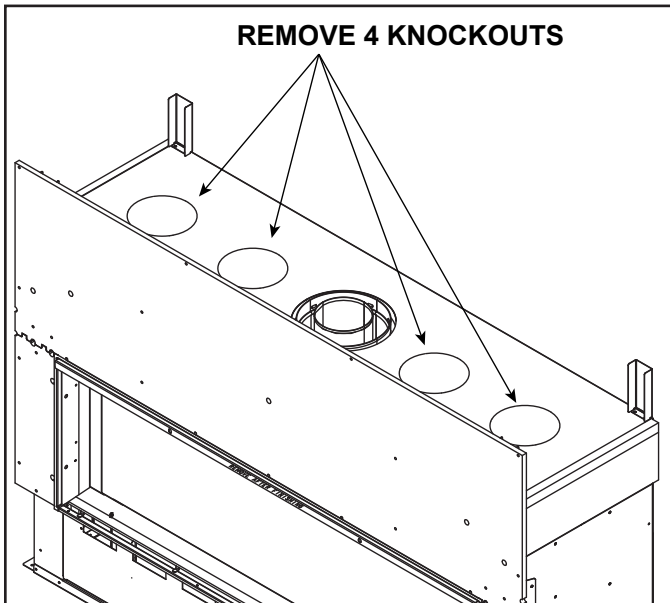

Figure 8 Remove Knockouts
1. Remove the four knockouts on the top of the appliance by dislodging them with a hammer and then using a screwdriver to remove from the holes. See Figure 8.